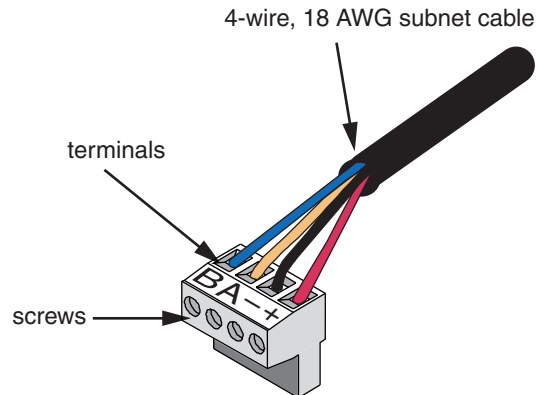

Figure 4: Subnet connector plug wire installation
3. Using the same process above, secure the wires into the remaining three terminals A, -, and + (see Figure 4).